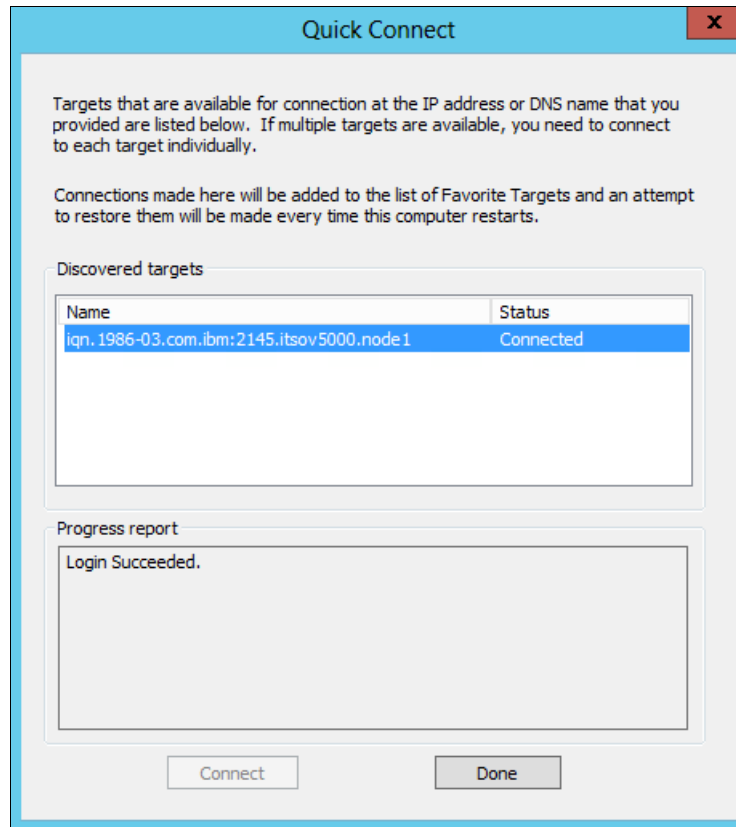

Figure 5-46 Successful iSCSI port connection
3. If the connection is successful, the window shown in Figure 5-46 opens. Click **Done** to proceed.